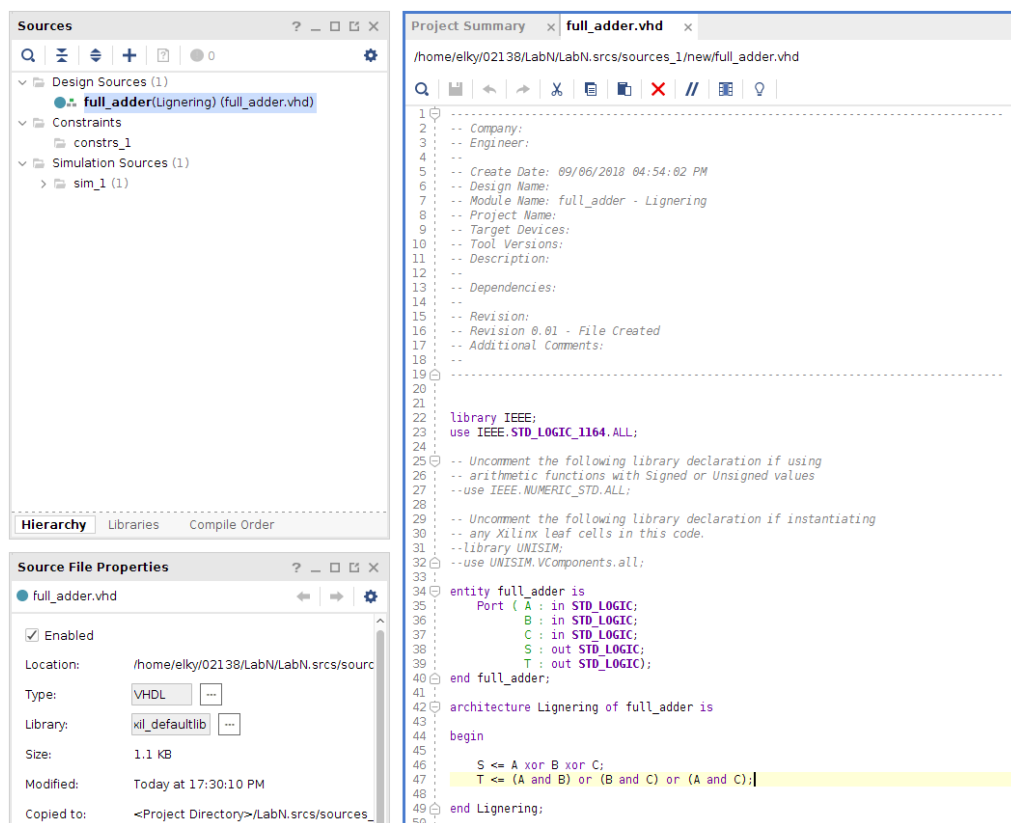

Figure 11 Full adder source code
5. You are now ready to add the VHDL code that describes the functionality of your digital circuit. For this example, we create a Full Adder. Proceed to double-click on the file “full\_adder.vhd” in the “Sources” window and add the code as shown in Figure 11.